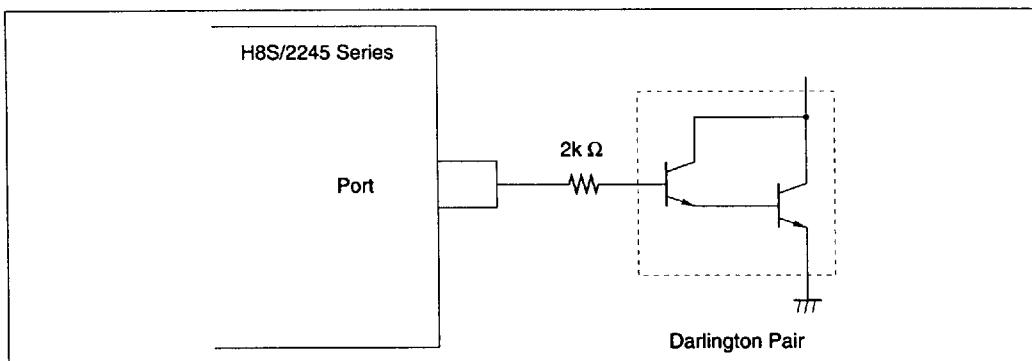

Figure 19-1 Darlington Pair Drive Circuit (Example)
- When driving a darlington pair or LED, always insert a current-limiting resistor in the output line, as shown in figures 19-1 and 19-2.